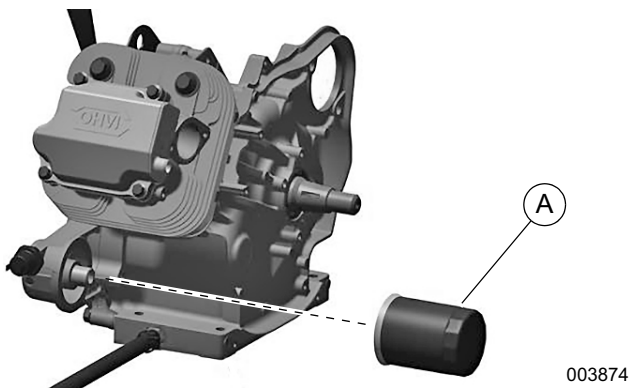

Figure 14-54. Install Oil Filter
See Figure 14-54. Apply a thin coating of 30W oil to o-ring on oil filter (A). Install oil filter on filter mount at the front of the engine. Tighten oil filter to 5.2 ft-lbs (7.1 Nm).